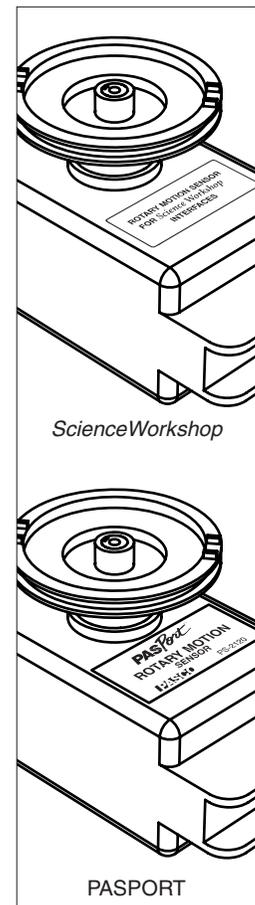

Figure 2: Three-step pulley on the “clockwise positive” side of RMS
- Place the three-step pulley onto the shaft of the RMS with the largest pulley out. The three-step pulley should be on the “clockwise positive” side of the RMS as illustrated (Figure 2).